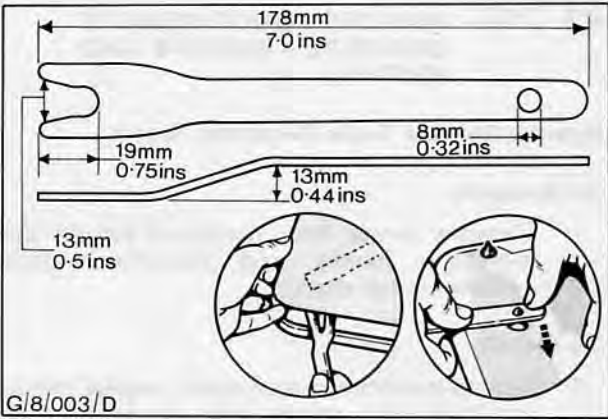

Fig. 28. Door trim clip removal tool (PVC finish panels)
4. Prise clips from their locations, lift trim panel from door. Use tool, dimensioned in Fig. 28, to lift PVC finish panel clips from their locations.